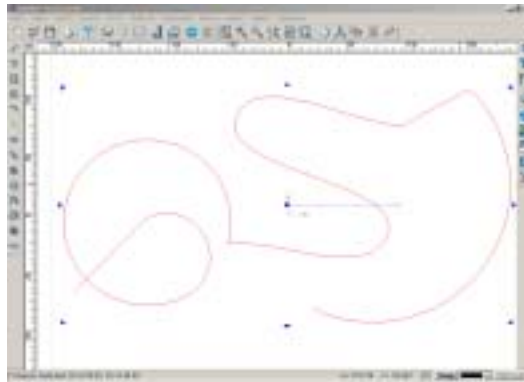

Fig. 4-11
2. By default, the first shape is a line. You can switch between these shapes by clicking on options in the status bar. A combine curve example is shown in Fig. 4-11.